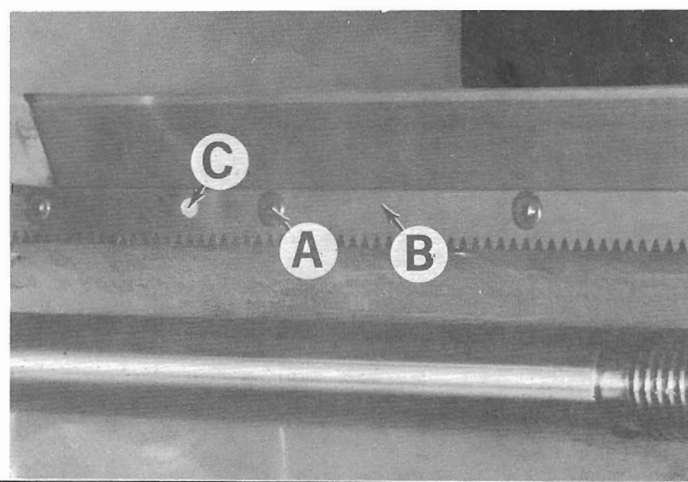

Figure 142 — Carriage Rack
4. Hand feed carriage to right until travel stops. Pull carriage by hand past end of bed until gear rack "B", Figure 142, is completely exposed.
5. Remove eight screws "A", Figure 142.